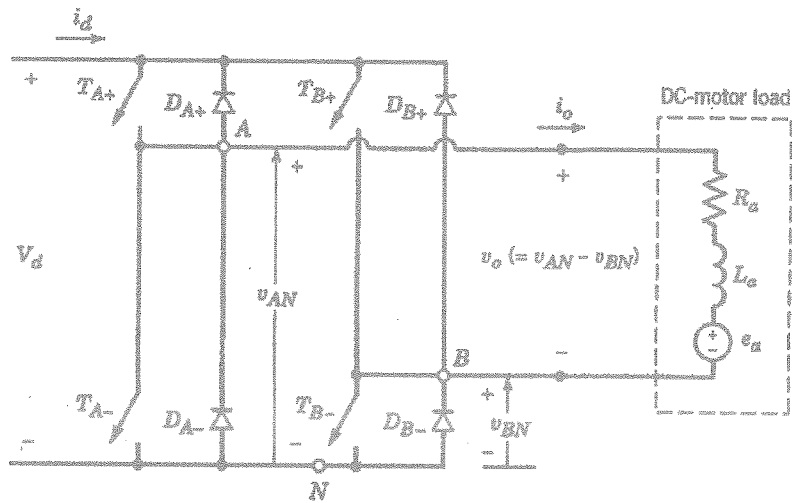

Figure Q3(b) DC-DC full-bridge converter connected with a DC motor
- b) Consider the full-bridge DC-DC converter given in Figure Q3(b).
- ii) Sketch the waveforms of  $v_{AN}$ ,  $v_{BN}$ ,  $v_O$  and  $i_O$  for three half cycles of the triangular signal, used in the PWM generator, indicating which devices are conducting, if the converter shown in Figure Q3(b) uses the PWM with bi-polar voltage switching.
- c) The armature of a 4.0 hP, 1500 rpm separately excited DC motor is supplied by a full bridge DC-DC converter as illustrated in Figure Q3(b). The armature inductance and the voltage constant of the DC motor are 1.5 mH and 0.11 V/rpm, respectively. The armature resistance is negligible. The input DC voltage to the converter is 300 V. If the converter uses the PWM with bi-polar voltage switching with the switching frequency ( $f_s$ ) of 25 kHz and the DC motor runs its rated load,